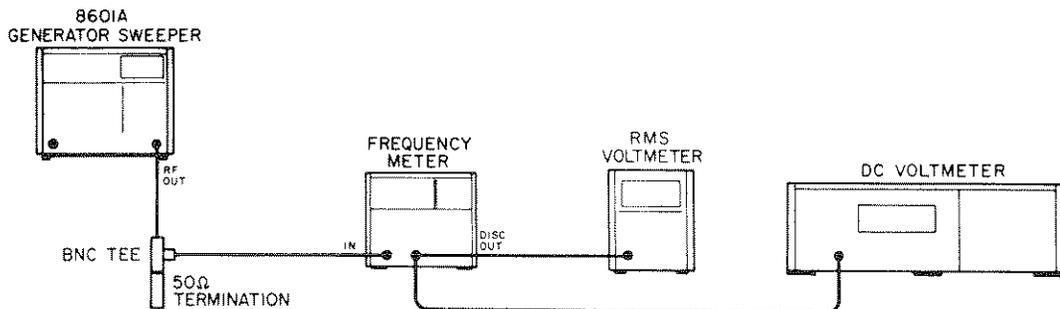

Figure 5-3. Internal FM Adjustment Setup
1. Connect equipment as shown in Figure 5-3.